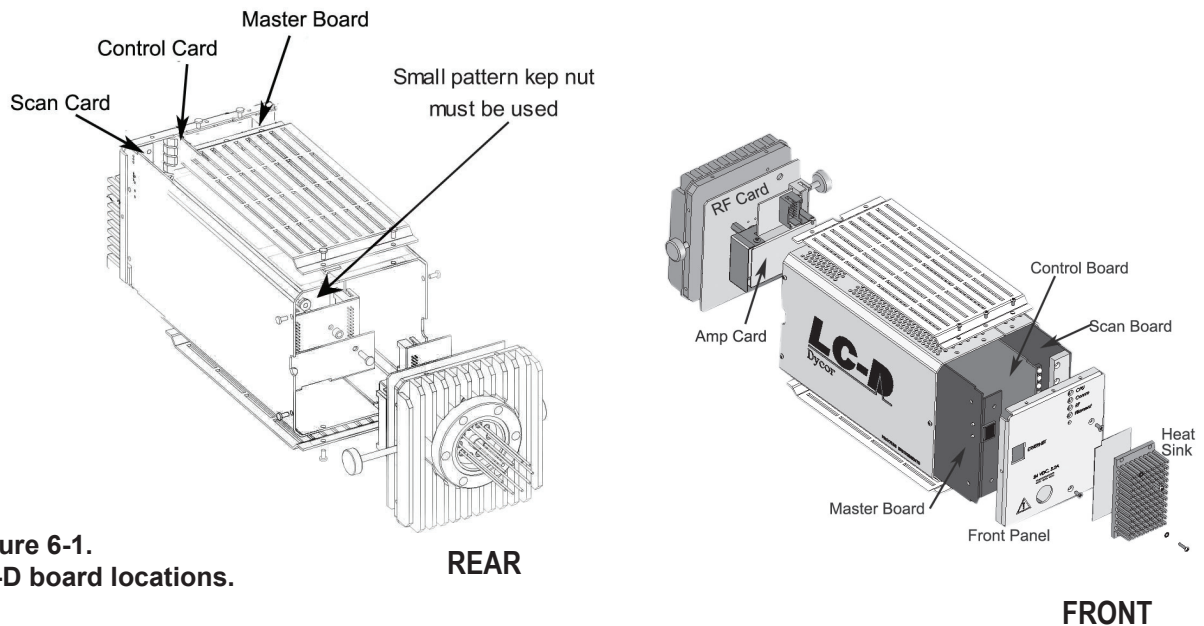

Figure 6-1.
The LC-D electronics unit contains five boards (Figure 6-1) that can be replaced in the field if damaged or found to be not working properly. These boards can be replaced using only a #1 Phillips screwdriver and a 1/4" nut driver. The boards are:
The Master board is found behind the front panel of the LC-D electronics to the left of the heat sink (see Figure 6-1).
Remove the (3) 1/4" screws from the top and bottom of the unit and the 3/16" screws from the left and right side of the unit (see Figure 6-1). These screws hold the front panel in place.
4. Once the assembly has been removed from the unit casing, remove the upper left and bottom right 3/8" screws with internal tooth lock washer from the heat sink. See Figure 6-1.
6. Remove the 1/4" screw from the bottom left of the LED panel to remove the Control board. Remove the 1/4" screw from the middle of the LED panel to remove the Scan board (Figure 6-1).